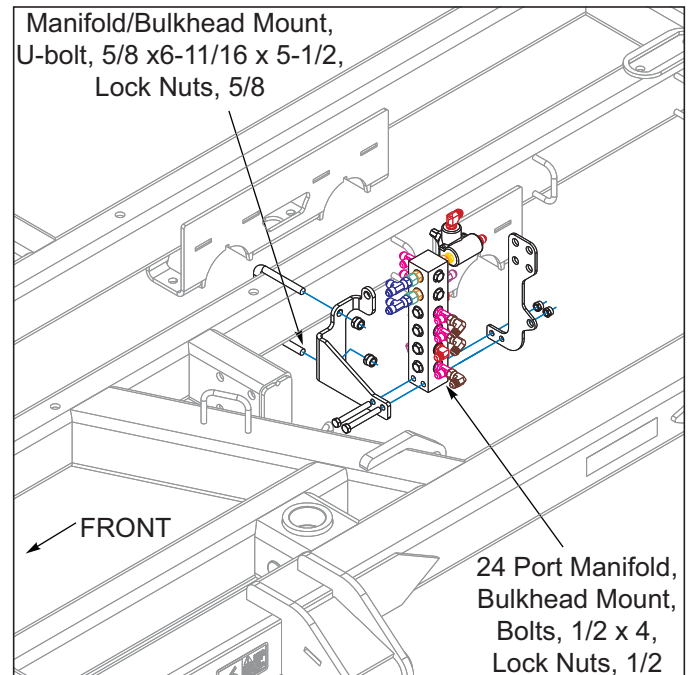

Figure 3-7: 24 Port Manifold 7531-23'-29'
3. Models 7531-23'-29' install the 24 manifold/bulkhead mount in position shown **See Figure 3-7**, using 5/8 x 6-11/16 x 5-1/2 u-bolts and 5/8 lock nuts. Attach the 24 port manifold and bulkhead mount with 1/2 x 4 bolts and 1/2 lock nuts.